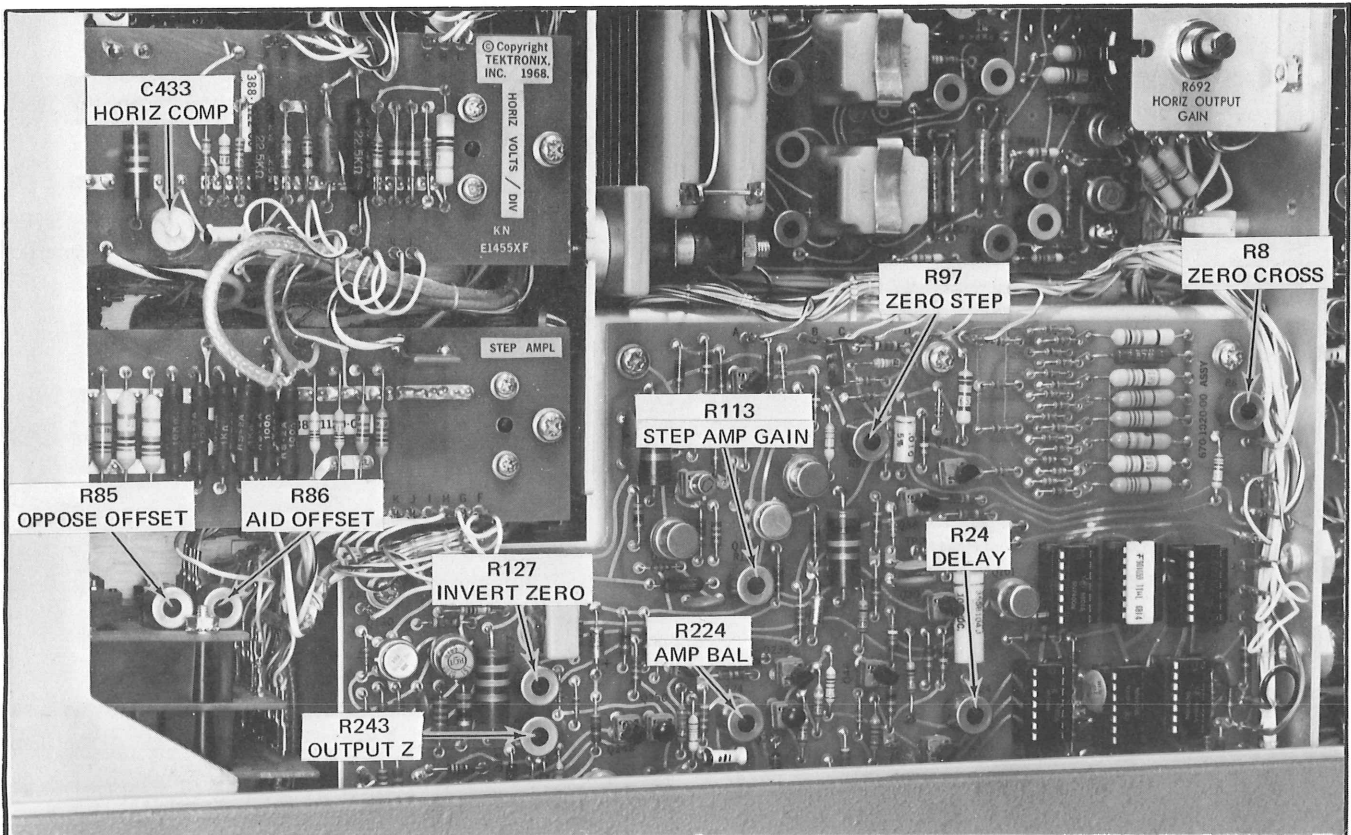

Fig. 1-7. STEP GEN, STEP GEN OFFSET and HORIZ VOLTS/DIV circuit boards: Location of adjustments in steps 11 through 15.
g. Turn C433, HORIZ COMP adjustment, on the HORIZ VOLTS/DIV circuit board (see Fig. 1-7) throughout its range.
d. ADJUST—R8, ZERO CROSS adjustment, on the STEP GEN circuit board (see Fig. 1-7) if the display is not correct.
h. ADJUST—R24, DELAY adjustment, on the STEP GEN circuit board (see Fig. 1-7) if the steps do not occur at the peak of the collector supply output.
d. ADJUST—R224, AMP BAL adjustment, on the STEP GEN circuit board (see Fig. 1-7) if the spot is not centered.
g. ADJUST—R97, ZERO STEP adjustment, on the STEP GEN circuit board (see Fig. 1-7) if the display is not centered.
l. ADJUST—R127, INVERT ZERO adjustment, on the STEP GEN circuit board (see Fig. 1-7) if the spot is not centered.
e. ADJUST—R113, STEP AMP GAIN adjustment, on the STEP GEN circuit board (see Fig. 1-7) if the spot is not centered.
h. ADJUST—R86, AID OFFSET adjustment, on the STEP GEN OFFSET circuit board (see Fig. 1-7) if the spot is not centered.
k. ADJUST—R85, OPPOSE OFFSET adjustment on the STEP GEN circuit board (see Fig. 1-7) if the spot is not centered.
h. ADJUST—R243, OUTPUT Z adjustment, on the STEP GEN circuit board (see Fig. 1-7) if the spot is not centered.